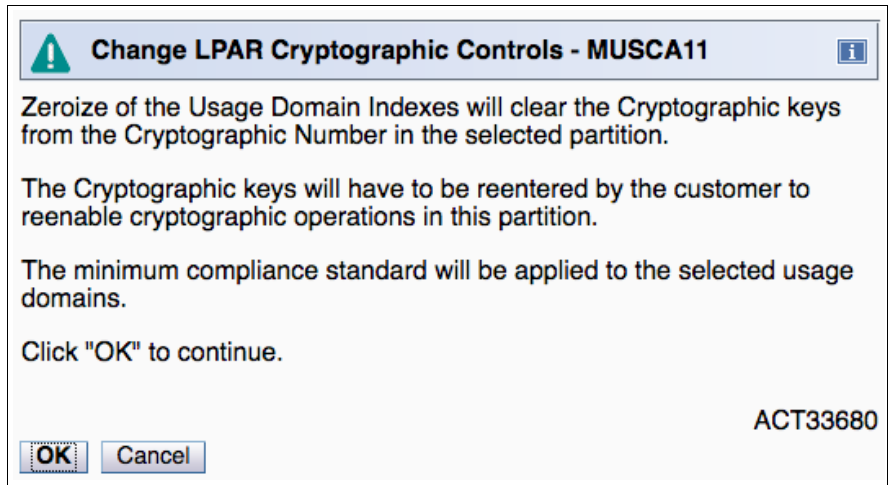

Figure 10-10 SE: Change LPAR Cryptographic Controls: ACT33680
- In the confirmation window (see Figure 10-10), click **OK** to dynamically change the cryptographic settings. After processing, a status window indicates the result of the dynamic change of cryptographic definition to an LPAR.